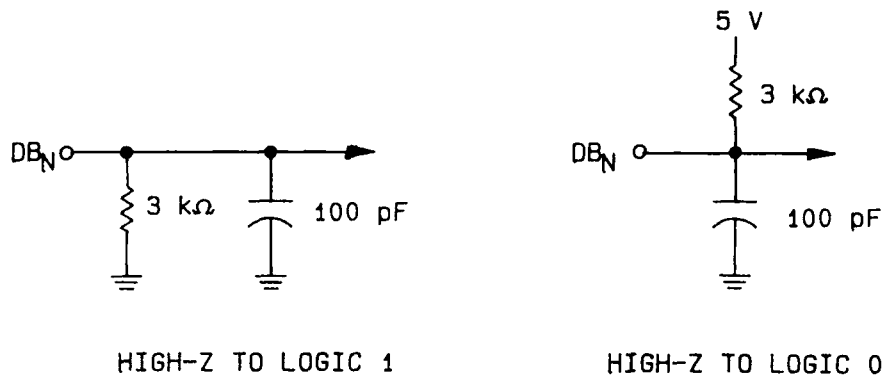

FIGURE 7. Load circuit for access time test.
- 12/  $t_{\text{DDB}}$  and  $t_{\text{DD}}$  are measured from the point when the input signal crosses the Schottky TTL logic threshold voltage (1.3 V), to when the output crosses either 2.4 V for a logic one, or 0.4 V for a logic zero. Each individual data bit (DB0 - DB11) is measured for both "high Z" to logic zero transitions. External loading is as shown on figure 7.